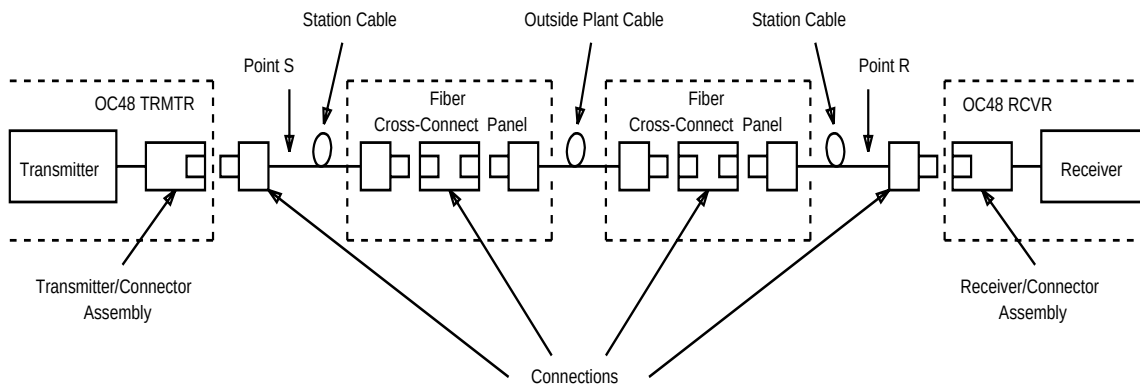

Figure 10-1. Optical System Interfaces
The FT-2000 OC-48 Lightwave System is designed to meet the OC-48 loss budget specifications shown in Table 10-1, Table 10-2, and Table 10-7. The transmit and receive powers are referenced to points S and R in Figure 10-1.
* Transmit and receive powers are referenced to points S and R as shown in Figure 10-1.
*Transmit and receive powers are referenced to points S and R as shown in Figure 10-1.